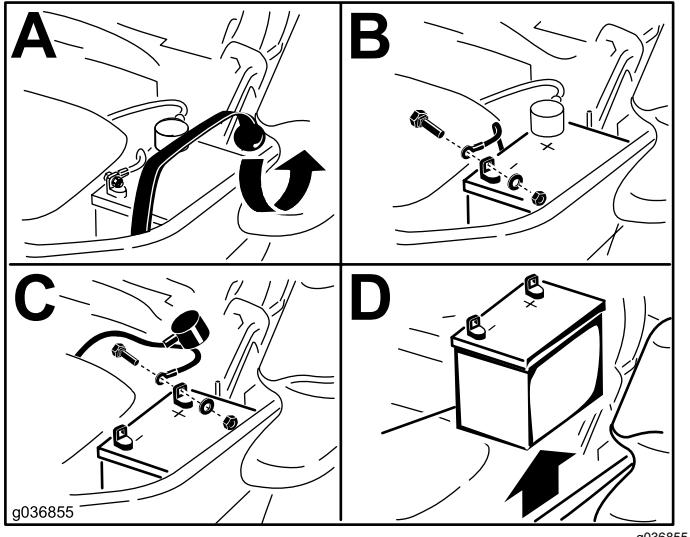

Figure 67
3. Remove the battery as shown in Figure 67.
1. Position the battery in the tray with the terminal posts opposite from the hydraulic tank (Figure 67).
4. Secure the cables with 2 bolts, 2 washers, and 2 locknuts (Figure 67).
6. Secure the battery with the rubber strap (Figure 67).